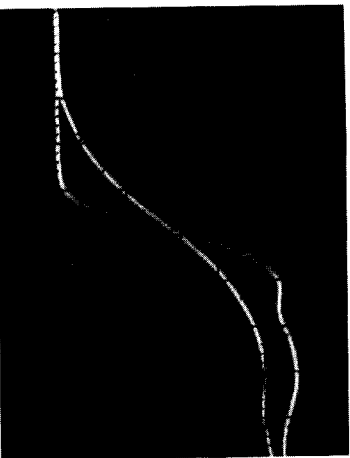

Figure 11. Propagation Delay Measurement
11. Adjust time-interval START **17** and associated vertical POSN control **53** to place 50% amplitude point of beginning trace at center vertical graticule line. (see figure 11.)